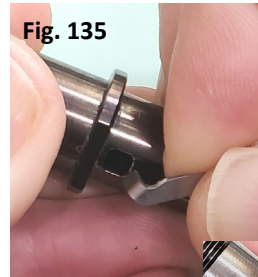

Fig. 135
a) Gently pull the leg of the lever nearest you by firmly grasping it with two fingers and pulling **carefully**. Pull on the lever only as much as is required for the lever foot to clear the square broach in the barrel (Fig. 135), and lift the foot up and free of the barrel.